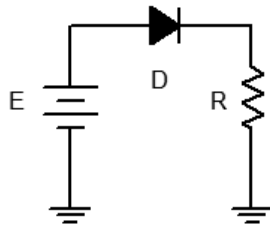
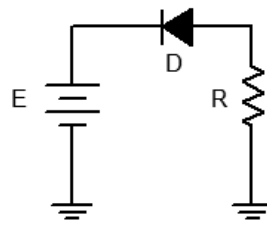

Figure 1.1
Figure 1.2
1. Consider the circuit of Figure 1.1 using  $R = 1 \text{ k}\Omega$ . For any positive value of  $E$ , the diode should be forward biased. Once  $E$  exceeds the knee voltage, all of  $E$  (minus approximately .7 volts) drops across  $R$ . Thus, as  $E$  increases, so does the diode current.
2. Build the circuit of Figure 1.1 using  $R = 1 \text{ k}\Omega$ . Set  $E$  to 0 volts and measure both the diode's voltage and current and record the results in Table 1.1. Repeat this process for the remaining source voltages listed.
4. Consider the circuit of Figure 1.2 using  $R = 1 \text{ k}\Omega$ . For any positive value of  $E$ , the diode should be reversed biased. In this case, the diode should always behave like an open switch and thus no current should flow. If no current flows, the voltage across  $R$  should be zero, and thus the diode voltage should be equal to the applied source voltage. Note that the diode's voltage polarity is negative with respect to that of Figure 1.1.
5. Build the circuit of Figure 1.2 using  $R = 1 \text{ k}\Omega$ . Set  $E$  to 0 volts and measure both the diode's voltage and current and record the results in Table 1.2. Repeat this process for the remaining source voltages listed.